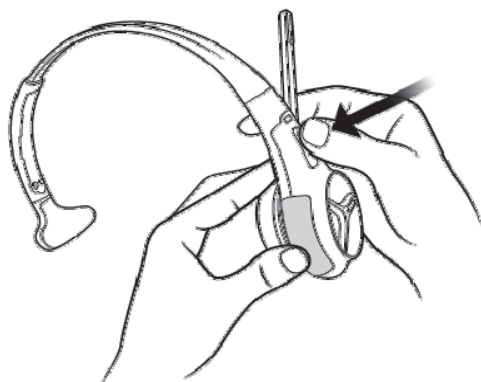

Figure 9.
3. Gently press the two halves together until they securely snap into place at the top. You may need to apply a slight downward pressure to align the connections appropriately. When the Control pod is connected to Carrier, you will hear a slight click. See Figure 9.